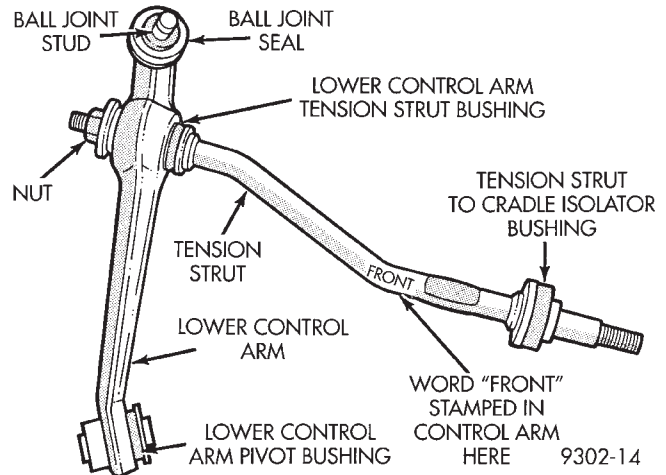
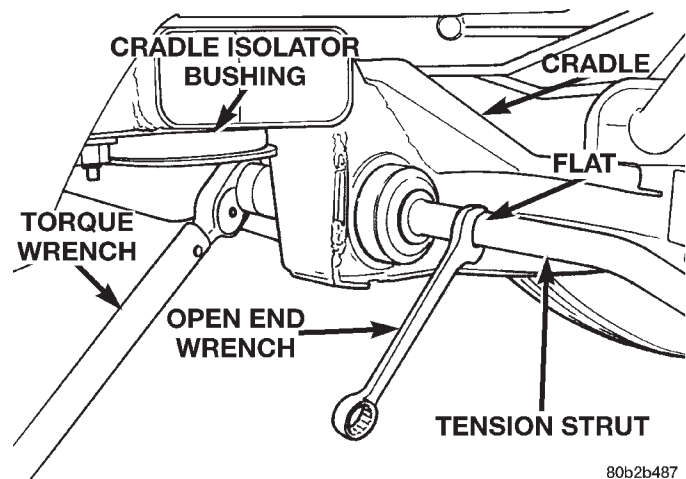

Fig. 68 Tension Strut Installed In Lower Control Arm.
Fig. 69 Tension Strut To Cradle Mounting
(1) Position tension strut in lower control as shown in (Fig. 68), with word **FRONT** stamped in tension strut positioned away from control arm (Fig. 68). With an open end wrench on flat of tension strut to keep tension strut from turning. Tighten **NEW** tension strut to lower control retaining nut to a torque of 130 N·m (95 ft. lbs.).
(2) Install lower control arm and tension strut as an assembly back on the vehicle. See Lower Control Arm Installation in this section of the service manual for the required installation procedure.
(3) Install washer on end of tension strut (Fig. 69). Install a **NEW** tension strut to cradle bracket
nut, on tension strut (Fig. 69). Tighten the tension strut to cradle bracket retaining nut to a torque of 130 N·m (95 ft. lbs.). When torquing tension strut nut, keep tension strut from turning by holding tension strut at flat using a large open end wrench (Fig. 69).